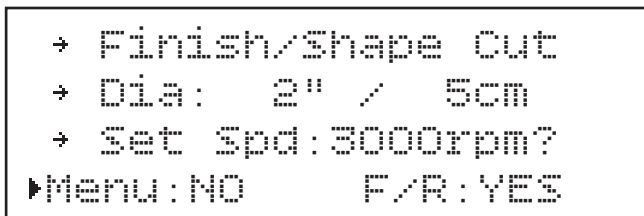

Figure 71. Speed chart confirmation screen.
4. Rotate spindle speed dial to change value of workpiece diameter, then press spindle speed dial to enter confirmation screen (see **Figure 71**).